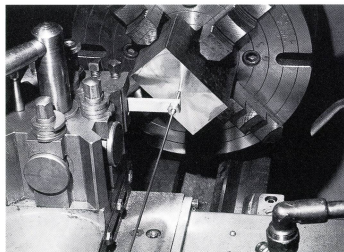

Figure 6
1. The simple version is shown in **Figure 6**, which is normally mounted in the tool post. In the most basic form, this consists of a thin rod suspended in a 360 degree swivel, at say 1/10th of the distance from an end with the point on it. This point is moved into the centre pop mark